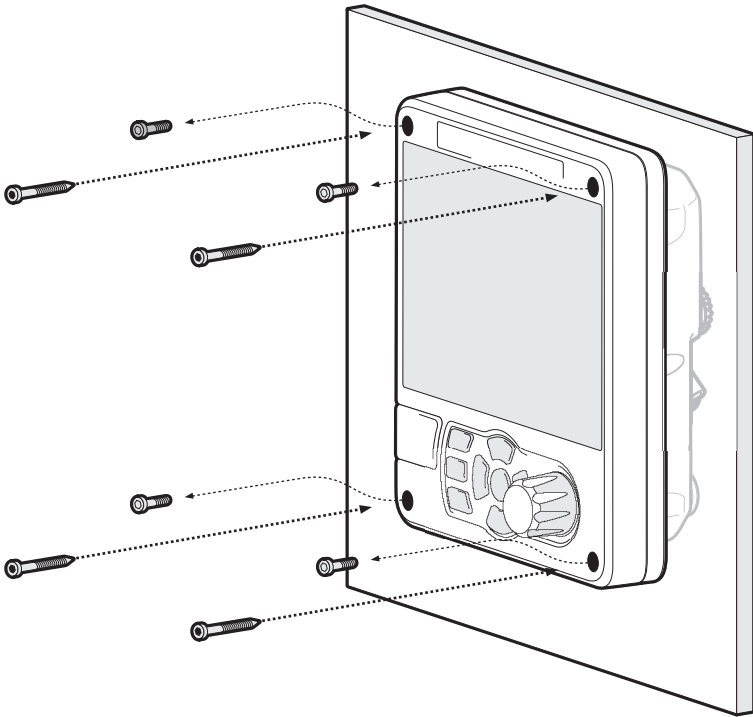

Figure 6 Panel Mounting the AIS Transceiver
- The transceiver can be panel mounted using the four self tapping screws provided. Please refer to Figure 6 for guidance. Access behind the panel is required when using this mounting option.
To panel mount the unit it is necessary to remove the 4 off socket cap screws recessed in front of the unit. See Figure 6.